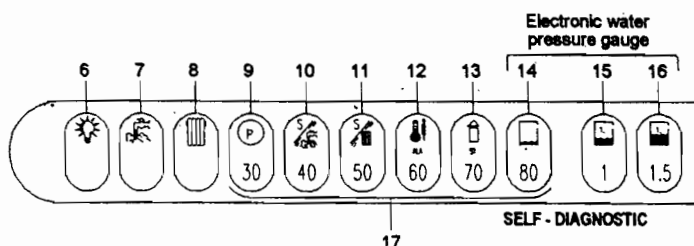

Fig. 5
### SELF-DIAGNOSTIC LEGEND (see fig. 5)
- Check that power/operating indicator 7 has turned on (see pag. 49 fig. 5).
- Check that power/operating indicator 7 has turned on (see fig. 5 pag. 49). The automatic ignition system will turn on the burner. It may be necessary to repeat the operation several times to eliminate air from the pipes. To repeat the ignition operation, push electronic ignition release button 3 and then repeat the ignition procedure.